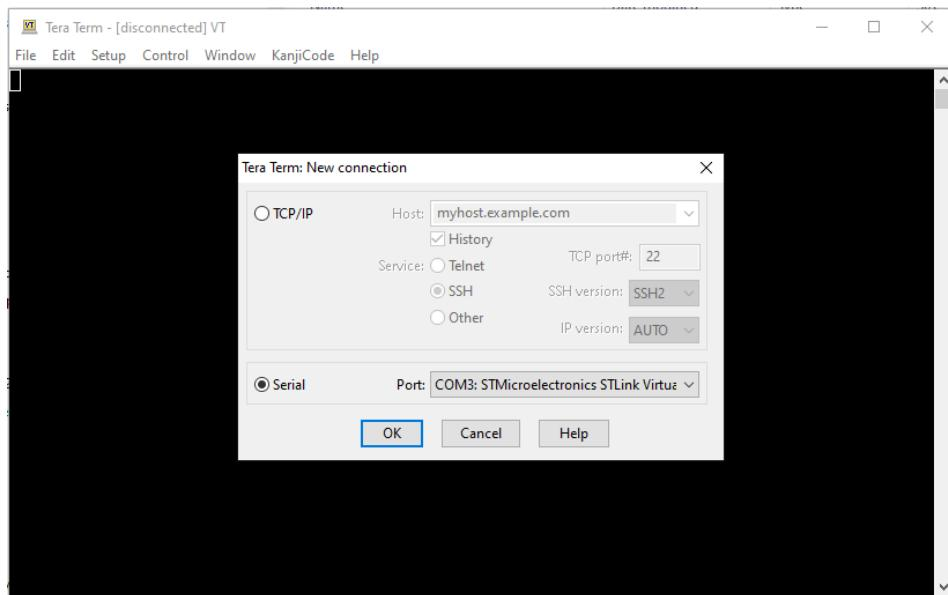

Figure 13: Select the serial port
**Step2:** Select the Serial and choose the correct com port as showed in figure 13.